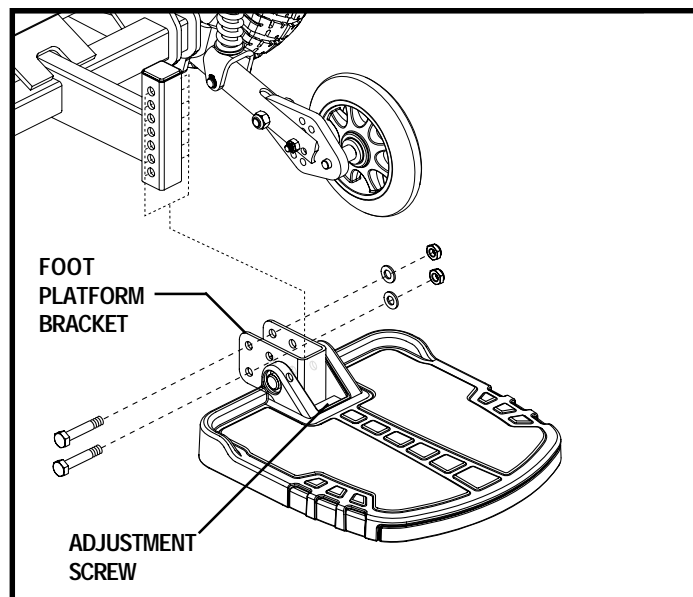

Figure 15. Foot Platform Adjustment
1. Remove the fasteners from the foot platform bracket. See figure 15.
You can adjust the angle of the foot platform. See figure 15.